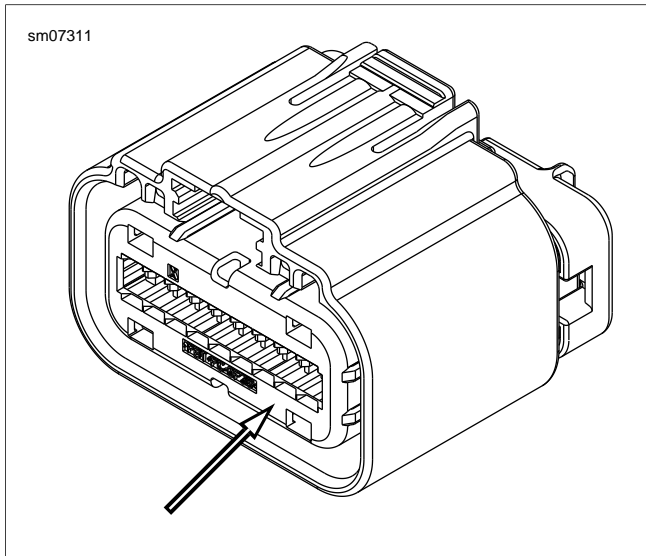

Figure A-69. Tyco GET 64 Secondary Lock
2. See Figure A-69. Use needle nose pliers to pull the secondary lock out of the housing.